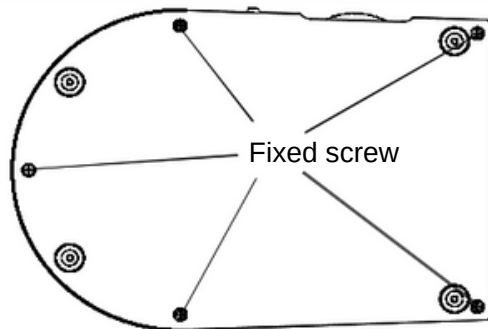

Fig.8
B. Open the base: Laying the microscope steadily on the table, unscrew the fixed screw and pull out the bottom base cover. (Fig.8)